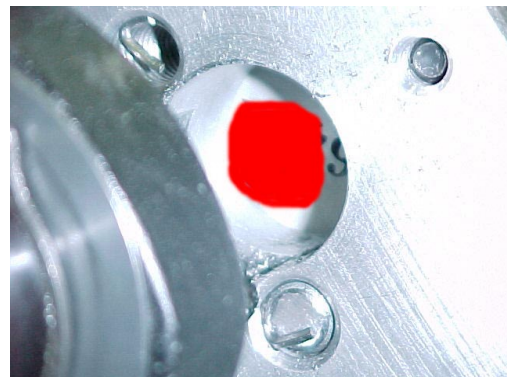

FIGURE 3
- Ensure that the red mark identifying the desired machining area of the propeller flange is visible through the adapter plate boring hole. See FIGURE 3.